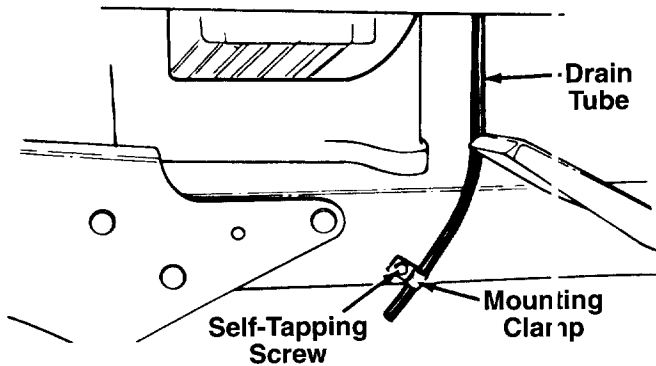

FIGURE 13.
- Route the battery drain tube over to the left side of the tractor. Loosen the self-tapping screw which secures the mounting clamp. See figure 13. Slip the end of the drain tube into the mounting clamp. Tighten the self-tapping screw to secure the clamp. Do not overtighten which could collapse the drain tube.